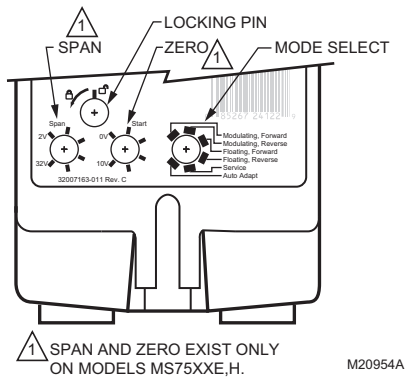

Fig. 4. Dials for control signal and zero/span.
NOTE: Selections are made using a dial that appears on both the front and back of the actuator (see Fig. 4). For available options, see Table 5.
These actuators have the capability of adjustable zero and span. Fig. 4 shows the dials. These dials are present only on the Enhanced Modulating models. A basic description of these dials follows:
2. Turn the zero dial (see Fig. 4) past the desired start point.
5. Turn the span dial (see Fig. 4) to the minimum setting (2 Vdc).